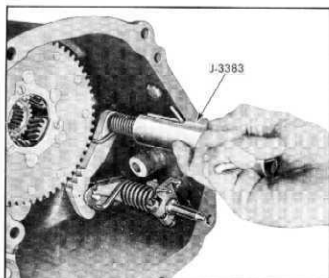

Fig. 73—Removing Parking Lock Pawl Spring
24. Using tool J-3383, engage parking lock pawl spring and rotate spring to unhook end from case (fig. 73). Remove spring and parking lock pawl. **20/10/03**